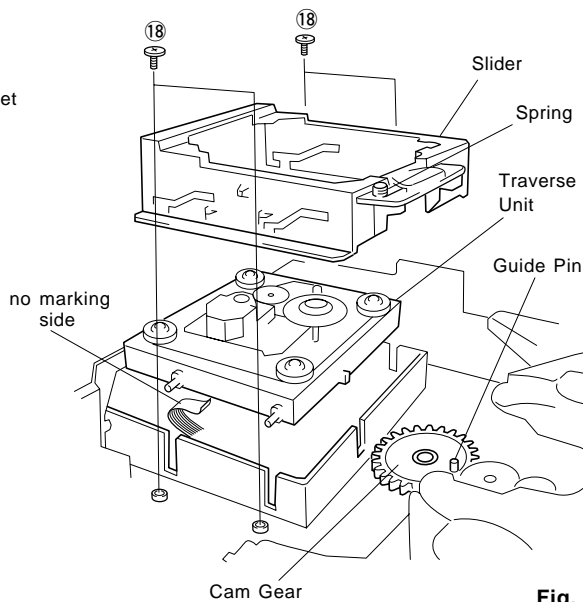

Fig. 12
- d. Remove 4 screws ( 18 ) and take out the Slider in Fig. 12.
- f. Remove the Traverse Unit in Fig. 12.
- b. Turn the Cam Gear until its Guide Pin comes to the position as shown in Fig. 12.